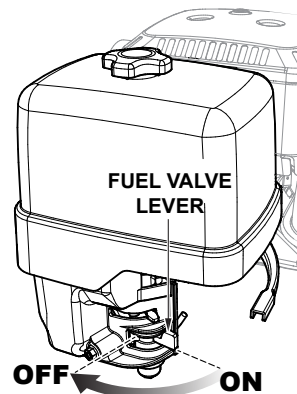

Figure 19. Engine Fuel Valve Lever (OFF)
3. Place the **engine fuel valve lever** (Figure 19) in the **OFF** position.